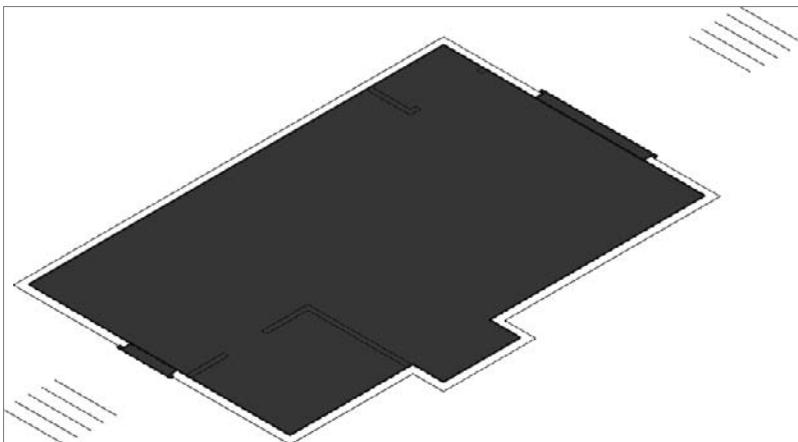

FIGURE 16.28 The 3D floor with the thresholds
To see where you're going, look ahead to Figure 16.28. You'll use the EXTRUDE command to create a series of solids that represent the thresholds and boxes for the steps and the floor.
7. Start the EXTRUDE command, select the floor polyline, and then extrude it 1" (25 mm) (see Figure 16.28).